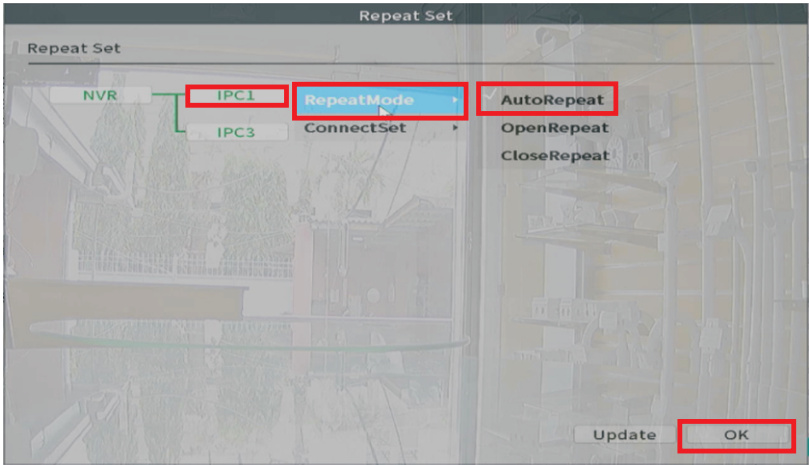

Figure 4. Set IPC1 in Repeat Mode > Auto Repeat.
- To set IPC1 as repeater, move the mouse cursor and click on **"IPC1"**. A dialog box will appear on screen. Select and Click on **Repeat Mode > Auto Repeat**. Click on **OK** button to apply the settings. IPC1 is now ready to act as repeater as illustrated on Figure 4.